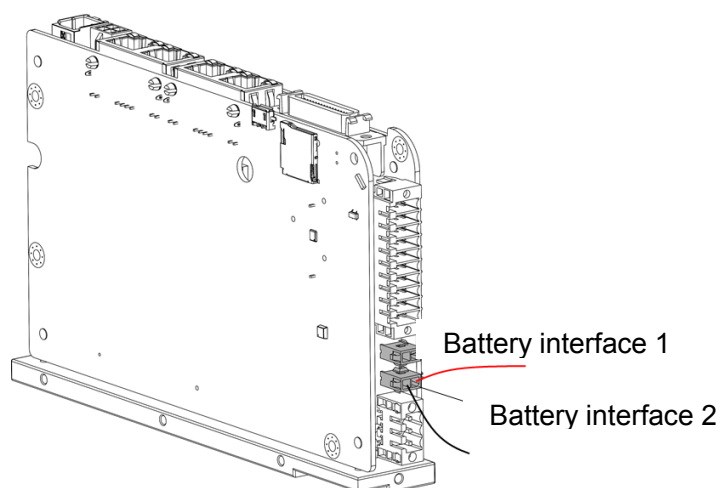

Figure 5-2 Measurement of encoder battery voltage
Measurement of encoder battery voltage: Set the function switch of the multimeter to the voltage range position, insert the red and black probes into the backup interfaces of the encoder battery to display the residual voltage, as shown in. Figure 5-2.
- Step 4** Find the backup interface (battery interface 2) of the encoder battery on the controller communication module to connect a new encoder battery, and then disconnect the old encoder battery connector from the battery interface 1 on the controller communication module, as shown in Figure 5-2.